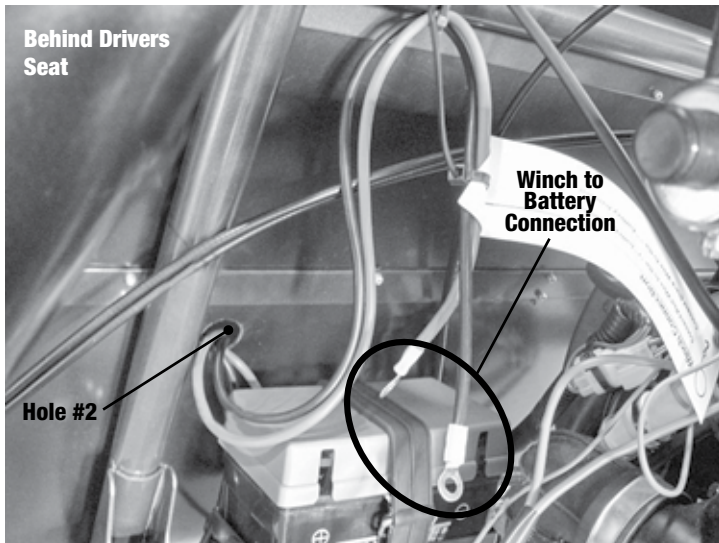

Fig. 5
- Carefully route the long black and red pair of wires through the underbody channel to the front of the vehicle (refer to figure 5).